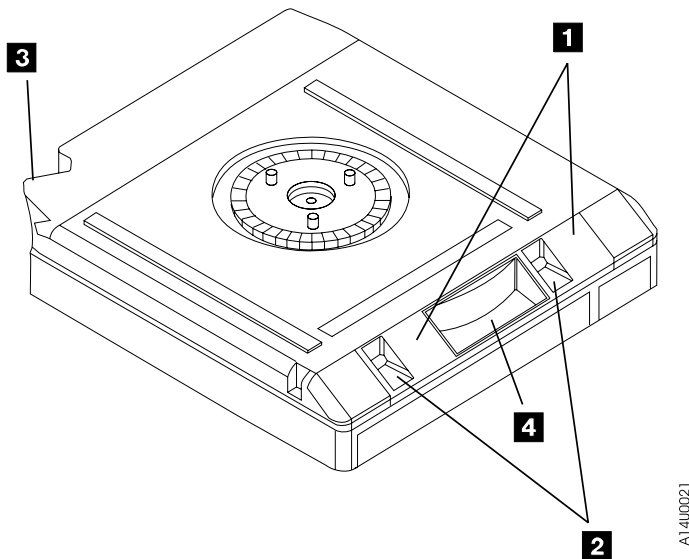

Figure 16. Bottom View of a Cleaning Cartridge
Figure 16 shows a 3590 cleaning cartridge. This is for illustration purposes only.
- If the drive unloads the cartridge, remove it by grasping the finger notch (see item **4** in Figure 16 on page 67).